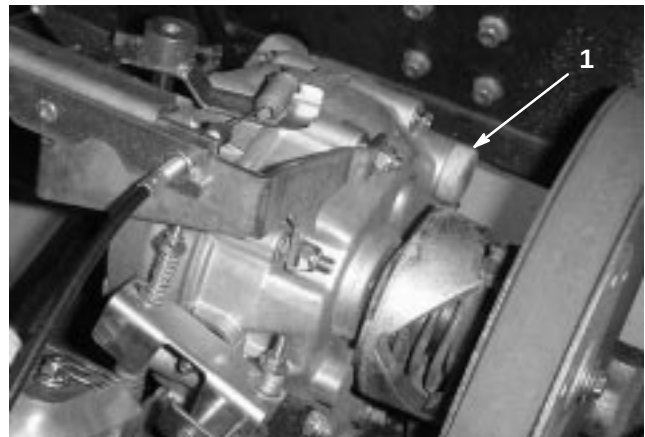

Figure 33
3. Fill the reservoir (Fig. 33) with approximately 1-1/2 qt. (1.4 liters) of SAE 10W30 motor oil or until the oil level is at the bottom of the level indicator hole (Fig. 32).